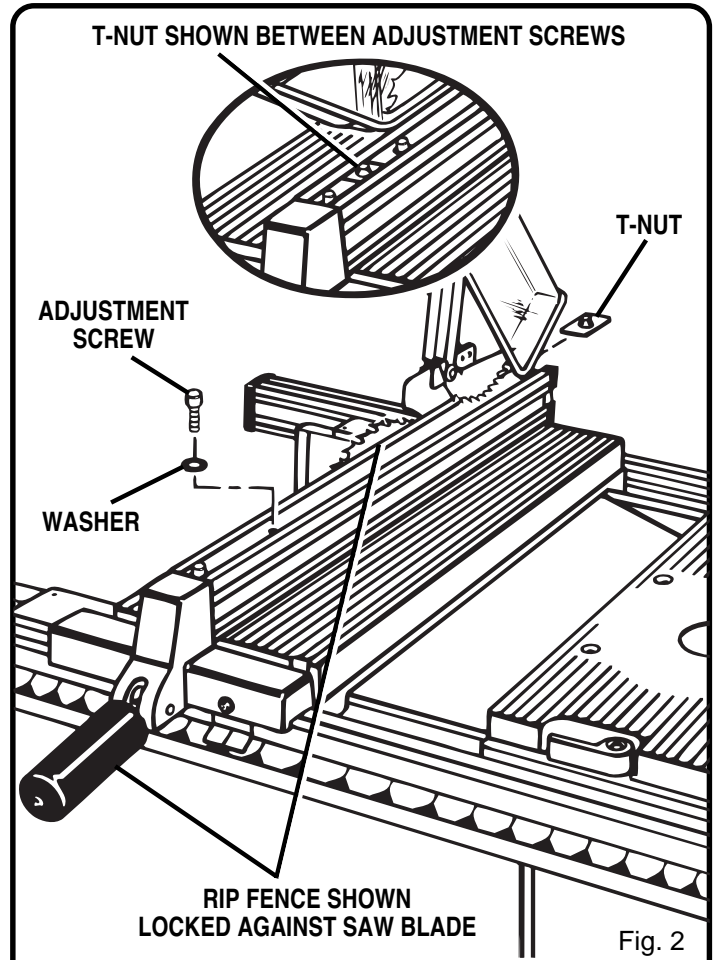

Fig. 2
See Figure 2.
1. Place rip fence against saw blade as shown in figure 2 and lock in place. This will insure that rip fence remains square.